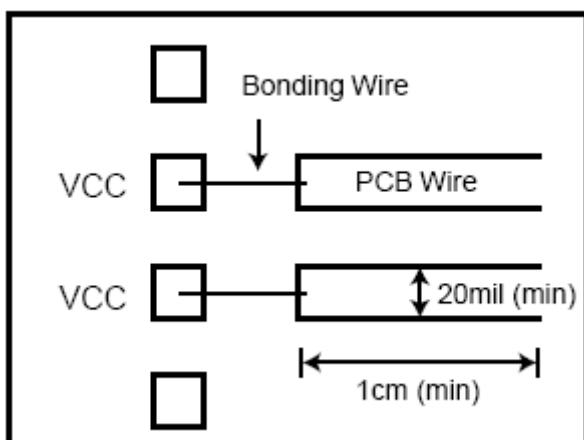

Figure 1 Power Pin Pitch
2. Please keep the PCB layout width > 20 mil for the VCC/VCCQ and VSS/VSSQ.(Figure 1)